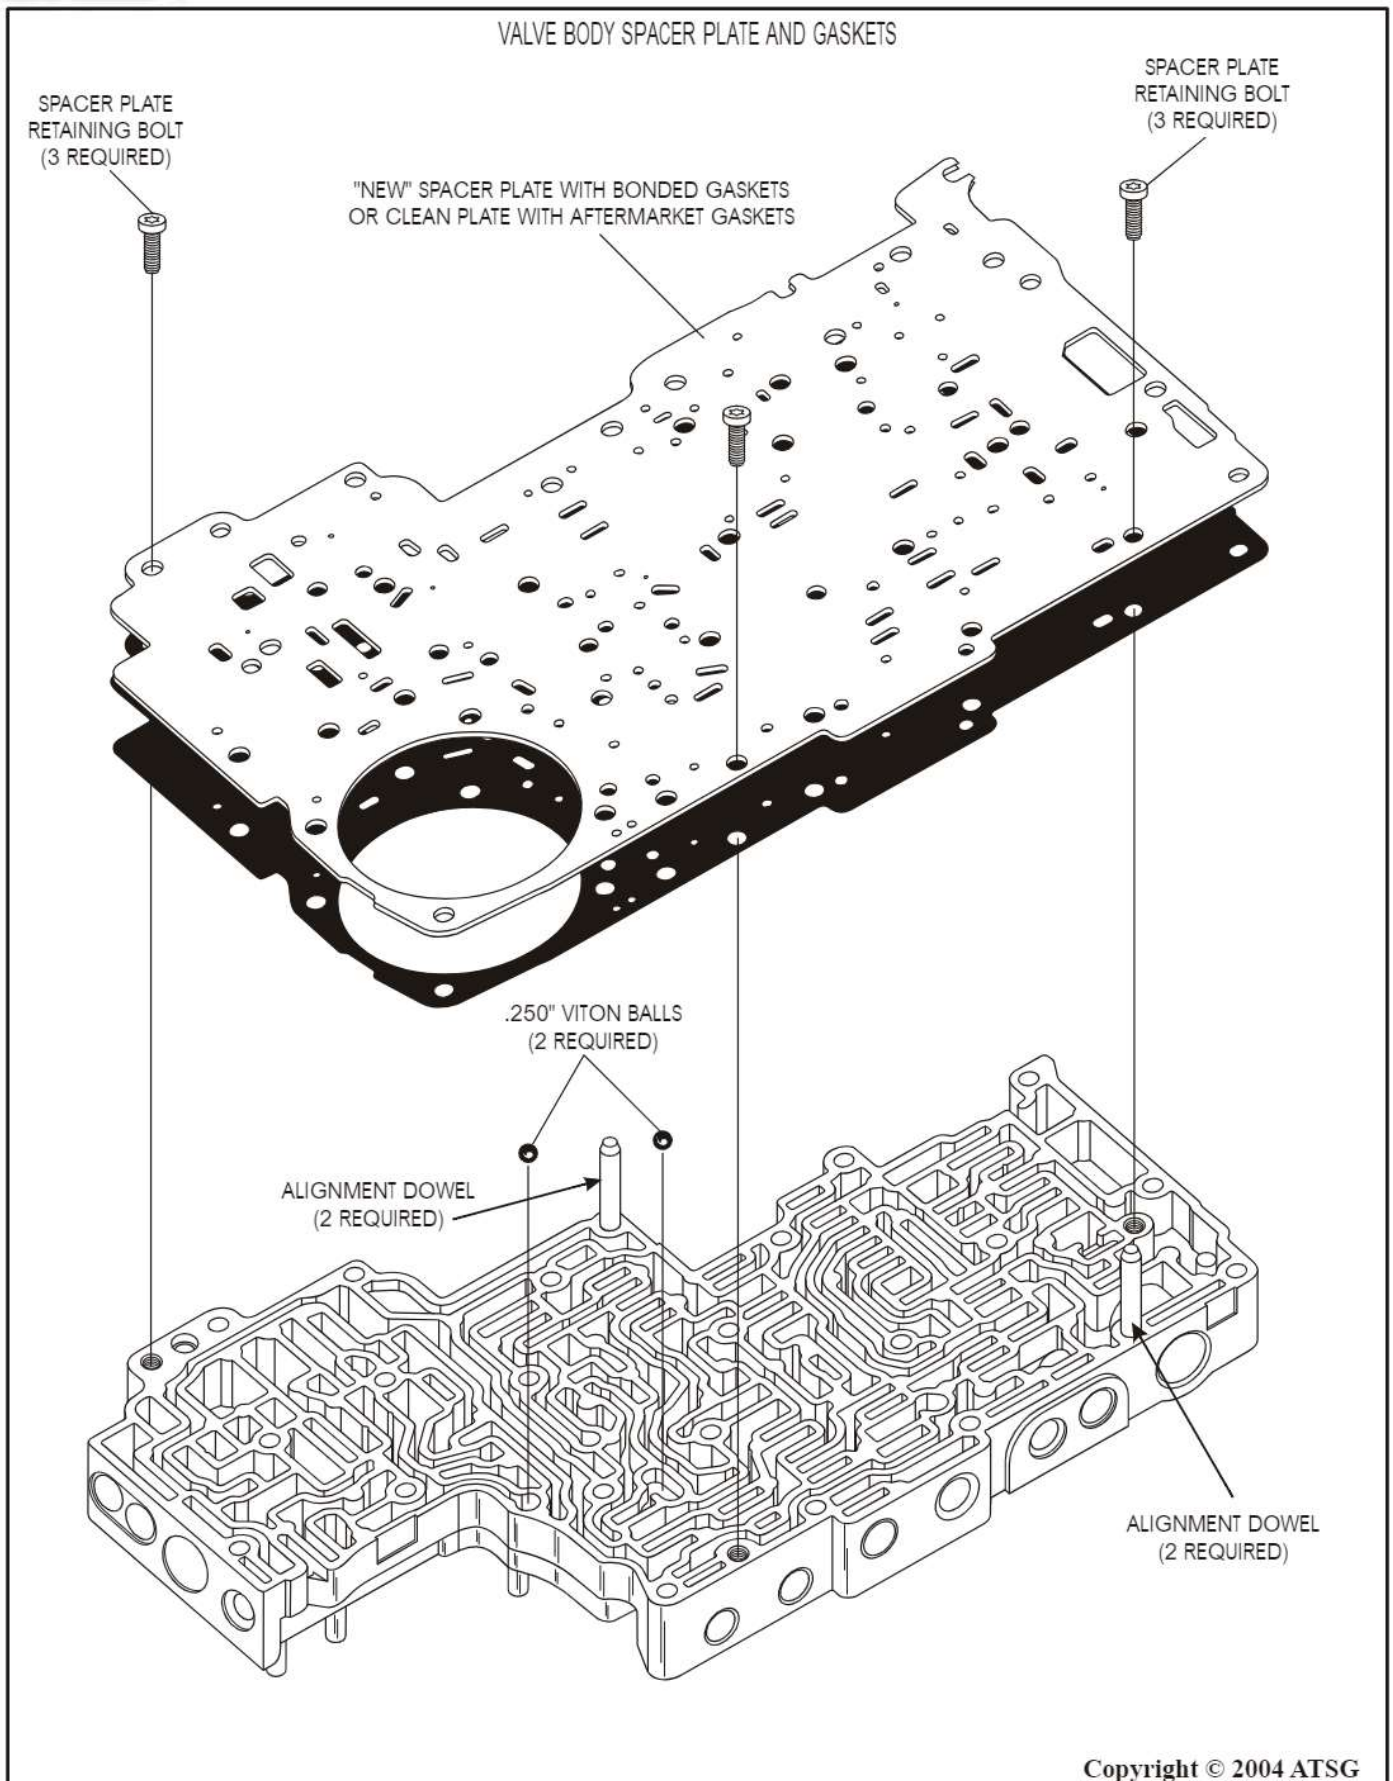

Figure 111
11. Install two valve body spacer plate alignment dowels in the locations shown in Figure 111.
15. Install the new gaskets on the proper sides of spacer plate and place over alignment dowels, or install a new Ford spacer plate assembly, as shown in Figure 111.
16. Install the three spacer plate retaining bolts, as shown in Figure 111, and torque the bolts to 10 Nm (89 in.lb.).